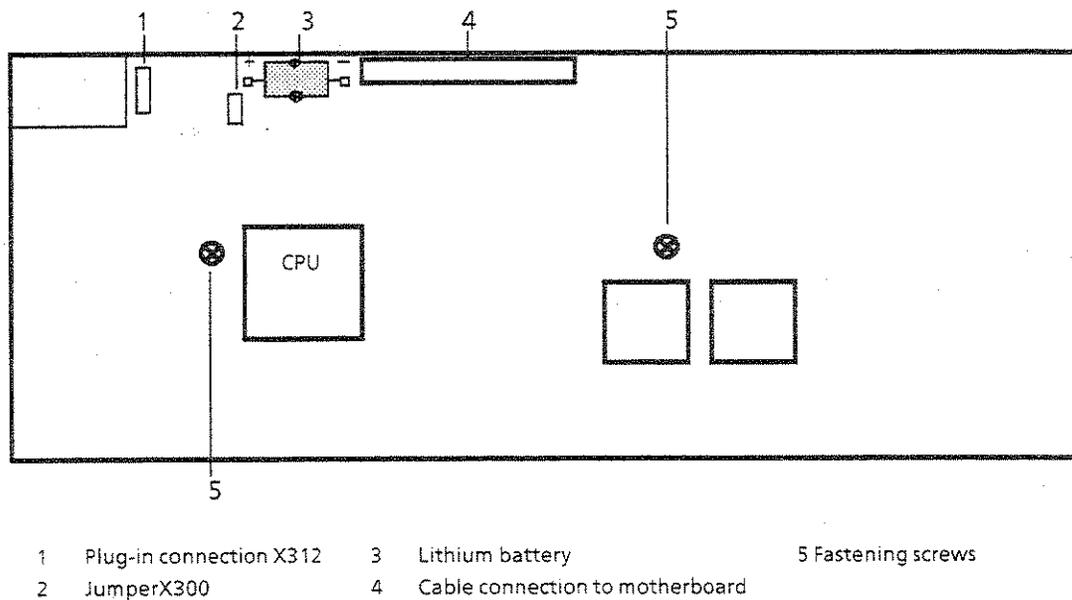

Fig. 4-2 Position of the battery on the PCB (side where the components are fitted)
- The position of the battery on the computer PCB is evident from Fig. 4-2.
- ▶ Detach jumper X300 (cf. Fig. 4-2, pos. 2).
- ▶ Detach cable at plug connector X312 (cf. Fig. 4-2, pos. 1). The remaining cable connections can remain plugged in.
- ▶ Remove 2 fastening screws (cf. Fig. 4-2, pos. 5) on the computer PCB.
- ▶ Screw on computer PCB (cf. Fig. 4-2, pos. 5), establish plug connection X312 (cf. Fig. 4-2, pos. 1).
**Caution!** Observe the polarity when fixing and soldering the battery (cf. Fig. 4-2 and marking on the PCB).
- ▶ Plug on jumper X300 (cf. Fig. 4-2, pos. 2).